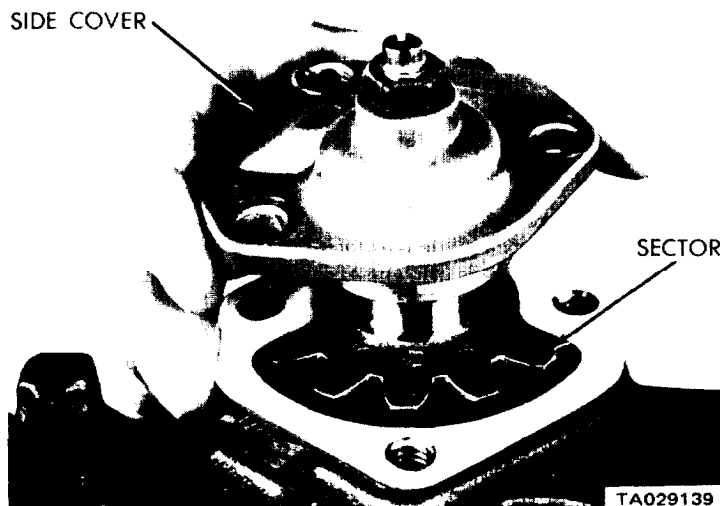

Figure 21-1. Removing Sector Shaft Assembly.
(1) Clamp the steering gear in a vise with the jaws on the mounting lug.
(2) Rotate the wormshaft from stop to stop, counting the turns. Then turn it back exactly halfway, placing it on center.
(3) Loosen the sector shaft adjuster screw locknut and remove the cover-to-housing bolts.
(4) Lift the side cover and sector shaft assembly from the gear housing. Using a plastic hammer, tap lightly on the end of the sector shaft to remove it (figure 21-1).